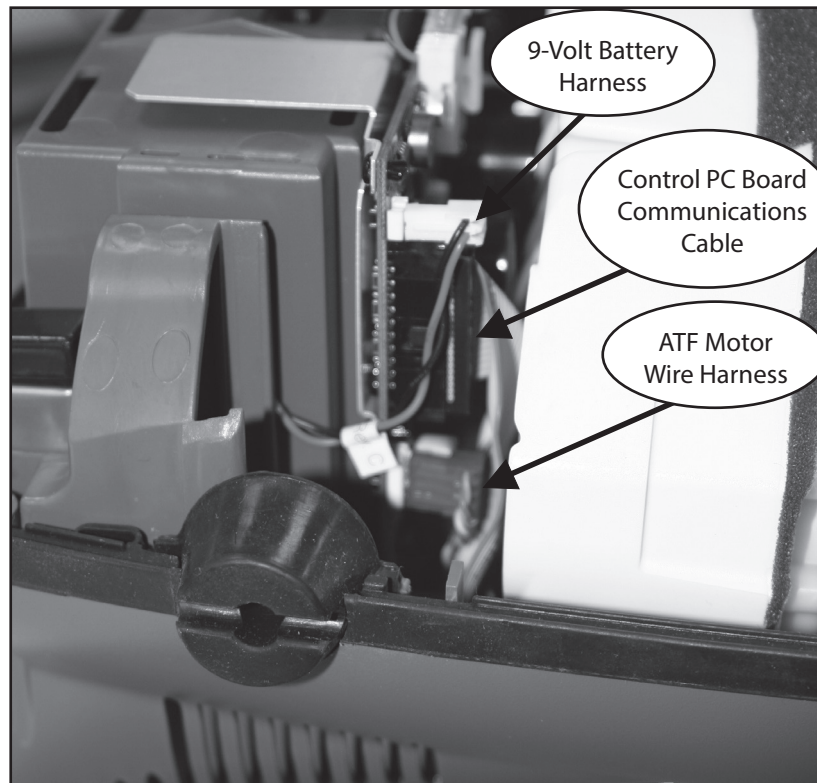

Figure 59: ATF Motor, 9-Volt Battery, and Control PC Board Communications Wire Harness Removal.
6. Pull the Power Manager PCB 1" out of the unit case. Gently push the Compressor Box away from the Power Manager PCB by 1/8". Disconnect the 2 wire harnesses and the ribbon cable shown in Figure 59. Remove the Power Manager PC Board.